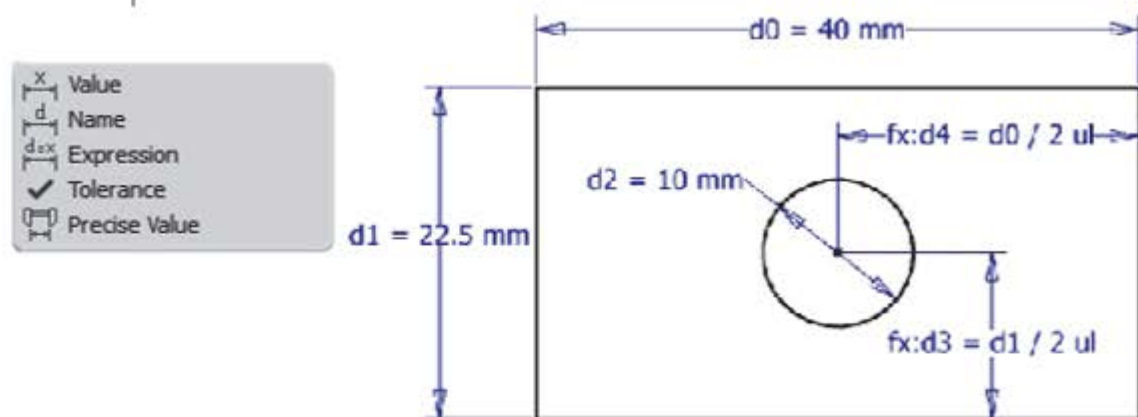

Figure 8–41
4. Which dimension display type is set to display the dimensions in the model shown in Figure 8–41?